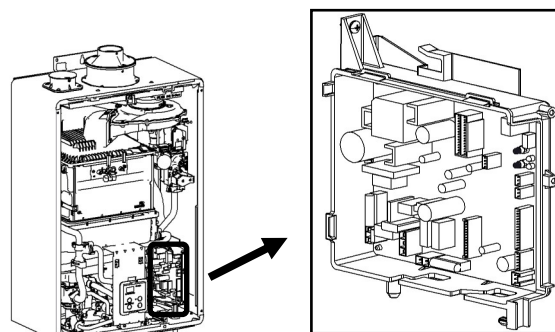

Figure 2: PC Board
3. Locate the PC Boards in the bottom, right corner for both water heaters (Figure 2).